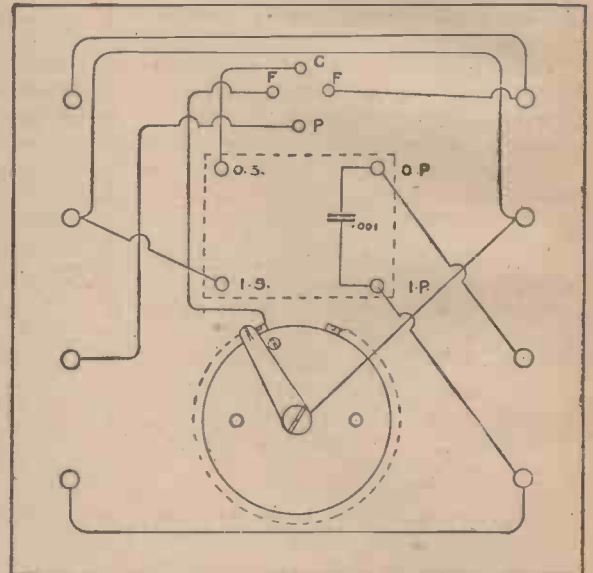

Fig. 5.—The Wiring of the Complete Set.
**Assembling.**—First attach the intervalve transformer in the position shown in Fig. 5. This must be screwed on to the under side of the panel by screws inserted from above.
Fig. 5 shows the method of wiring up the set. It is advisable to solder all joints after the set has been tested to see if everything is in order.